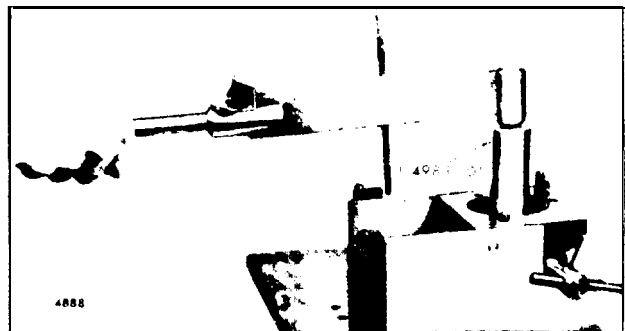

Fig. 40 - Tightening Injector Nut With Torque Wrench
8. Use socket J 4983-01 and a torque wrench to tighten the injector nut to 75-85 lb-ft torque (Fig. 40).